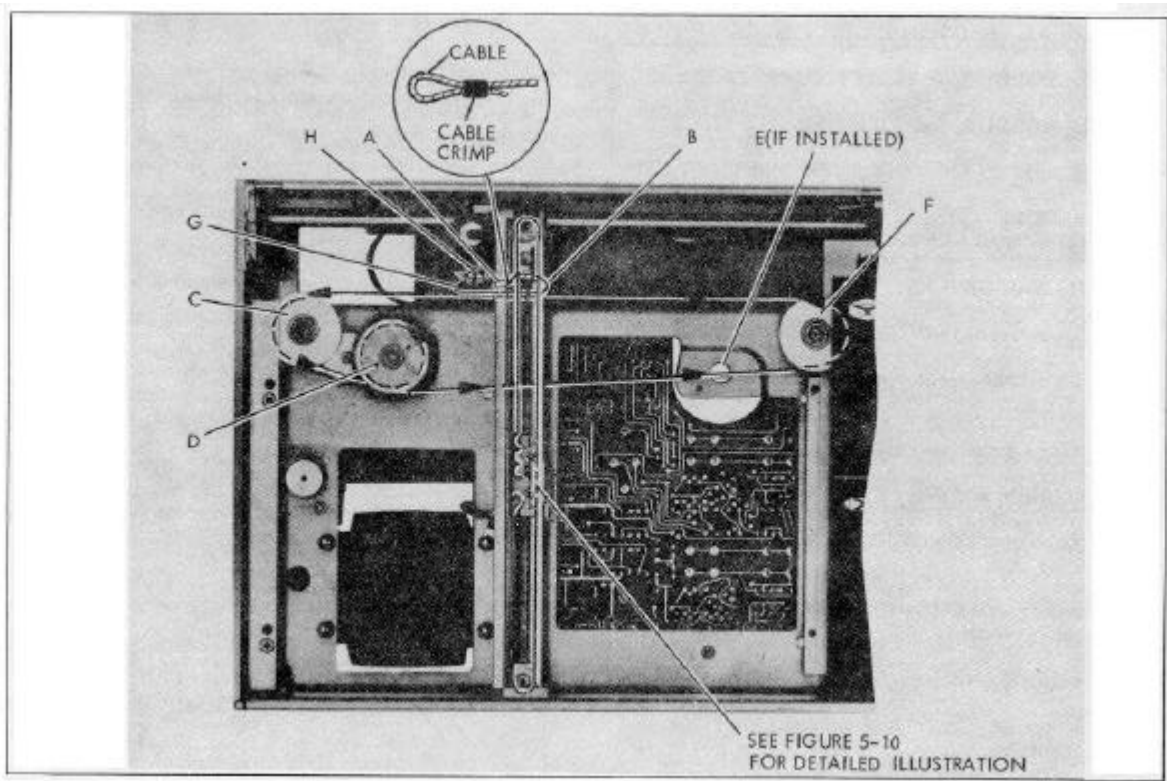

FIGURE 5-11. RESTRINGING DIAGRAM
- c. Make small loop in one end of cable and clinch with cable crimp. See Figure 5-11.